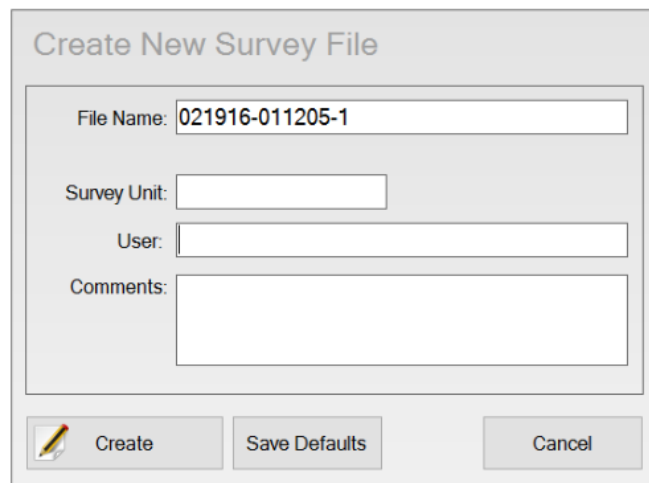

Figure 12 Creating a survey file
- c. A **Create New Survey File** dialog box will be displayed as shown in Figure 12.